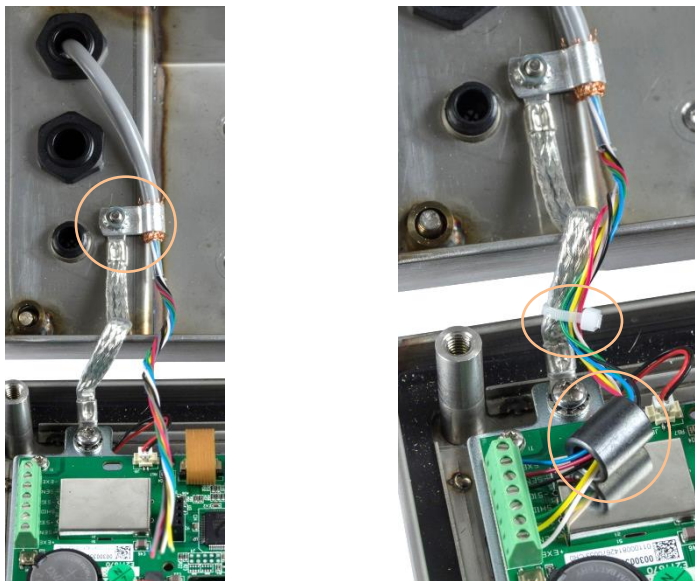

Figure 2-28: Analog Load Cell Cable Ferrite Installation and Chassis Grounding, IND236
5. Connect the grounding clip to the enclosure using the enclosure hinge attachment screw, as shown in Figure 2-28 (left).